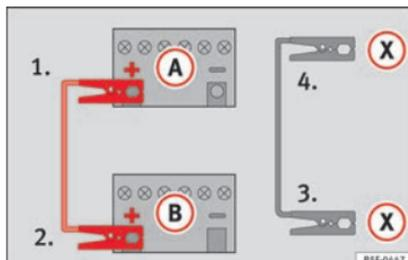

Fig. 78 Diagram of connections for vehicles with Start Stop system
- *For vehicles with Start-Stop system:* connect one end of the **black** jump lead (X) to a suitable ground terminal, to a solid piece of metal in the engine block, or to the engine block itself >>> Fig. 78.
5. Connect the other end of the **black** jump lead (X) to a solid metal component bolted to the engine block or to the engine block itself of the vehicle with the flat battery. Do not connect it to a point near the battery (A).